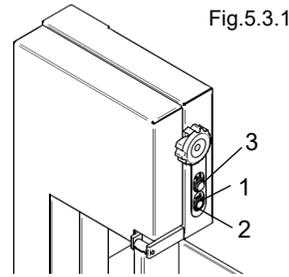

Fig.5.3.1
5.3 - Starting the saw (Fig. 5.3.1)
5.4 - Stopping the saw (Fig. 5.3.1)